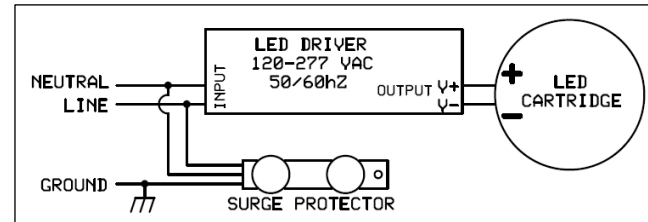

Fig. 4 – wiring diagram
4. Make wiring connections. Connect supply ground to ground screw, see Fig. 4.